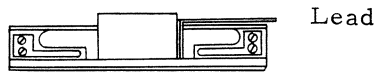

Fig. 27
3. Mounting of CdS 1) Install CdS on CdS case (19-0690). Mount it with Diabond as shown in Fig. 27.